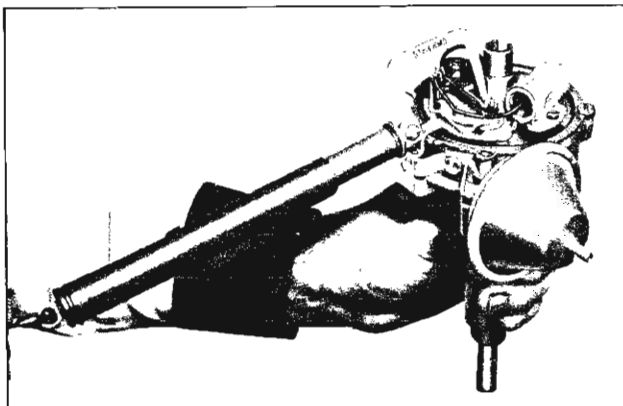

Fig. 43—Checking Breaker Arm Spring Tension
8. Check and adjust points for proper alignment and breaker arm spring tension (fig. 43). Use an aligning tool to bend stationary contact support if points need alignment.